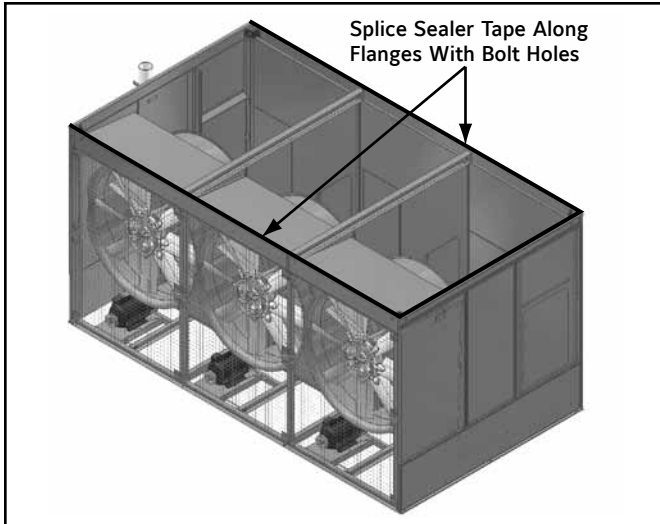

Figure 3
3. Install sealer tape on the mating flange of the basin section to ensure an airtight seal between the casing and basin section. Apply a layer of 1/4" x 1" sealer tape around the face of the flange over the centerline of the holes. Do not overlap or stretch too thinly at the corners. When it is necessary to splice the sealer, press the two ends together to form a smooth, continuous strip. The sealer is to be spliced only along the flanges with holes (Figure 3).
9. On units with more than one casing, install the remaining casings using the same procedure as the first. When installing two or more casings, on the basin section, sealer tape must be applied to both cross flanges. (Figure 3)